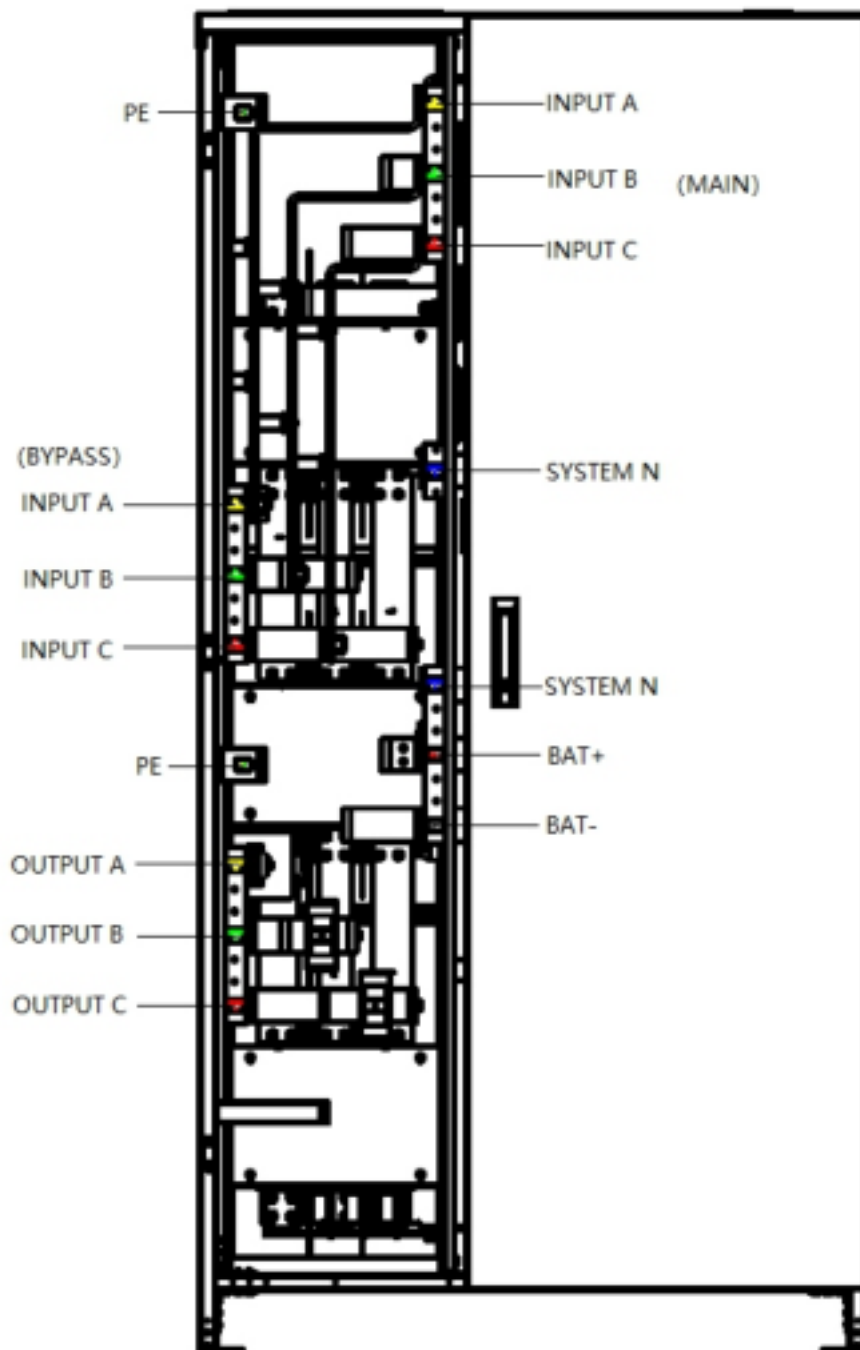

Figure 3-11 Connections terminals
Step 2: Open the back door of the cabinet, remove the plastic cover. The input and output terminal, battery terminal and protective earth terminal are shown in Figure 3-11;
Step 4: Connect the main input wire to the input terminal (Main Input); Connect the output wire to the output terminal (Output) as figure 3-11;